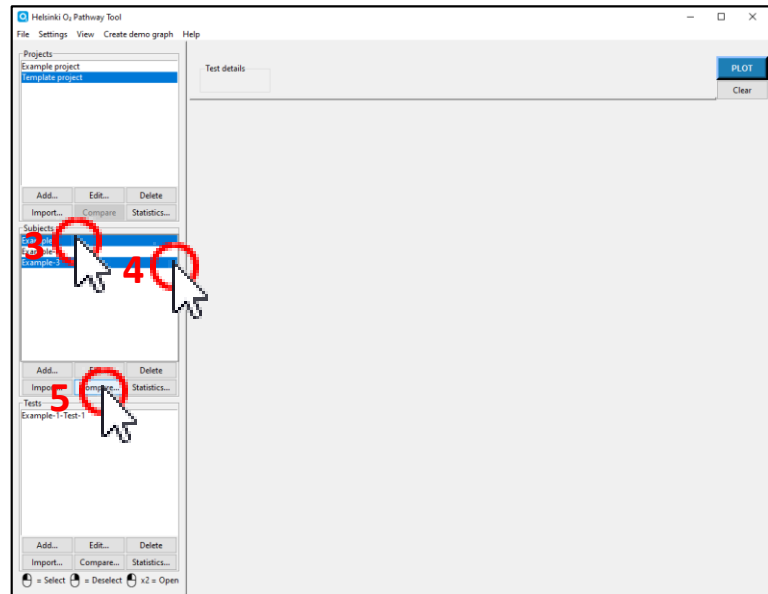

Figure 41
3. Select the first subject for comparison by left clicking on it in the side panel's subject module (figure 41).
4. While holding down the CTRL button, select the second subject for comparison by left clicking on it in the side panel's subject module (figure 41).
5. Click the “Compare...” button (figure 41).